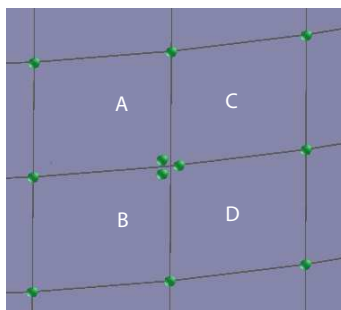

Figure 5.50: After splitting the shared node among Group 1 (Element A), Group 2 (Element B) and unselected elements (Elements C and D).
- Note: It is important to understand that if a node to be split is shared not only between elements belonging to Group 1 and Group 2, but also between some more elements belonging to neither group, then it is split among Group 1, Group 2 and the rest of elements. For example, let us assume a node is being shared by four elements - A, B, C, and D. See Figure 5.49. If A is added to Group 1, B to Group 2 (C, D are not added to any group), when the shared node is split, *Coustyx* splits the node into 3 different nodes: node 1 for Group 1 (Element A), node 2 for Group 2 (Element B), and node 3 for the rest of elements that belong to neither groups (Elements C and D). See Figure 5.50.